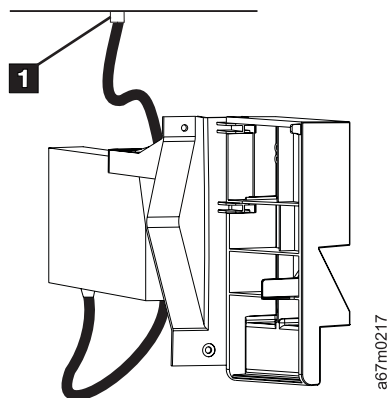

Figure 102. Disconnecting the Bar Code Scanner Cable
- ___ 6. Disconnect the bar code scanner cable connector (**1** in Figure 102 on page 225) from the rear receptacle inside the library by pressing on the tab on the connector.